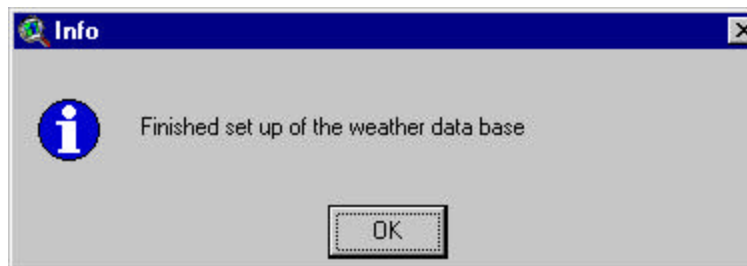

Figure 7.9
4. When setup of the weather database is complete, a message dialog is displayed (Figure 7.9).